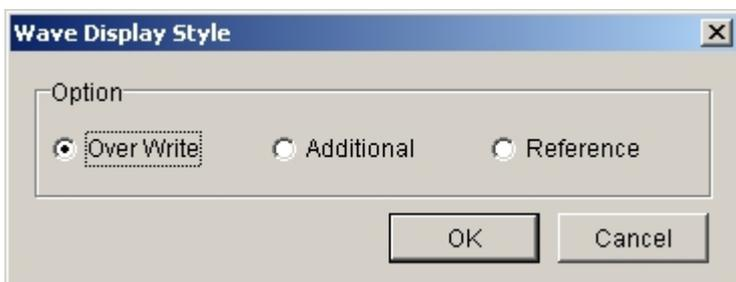

Fig. 7-3-3 Waveform display function
| (8) | Wave View | Selected data can be seen with the Waveform Viewer. (Fig. 7-3-3) |